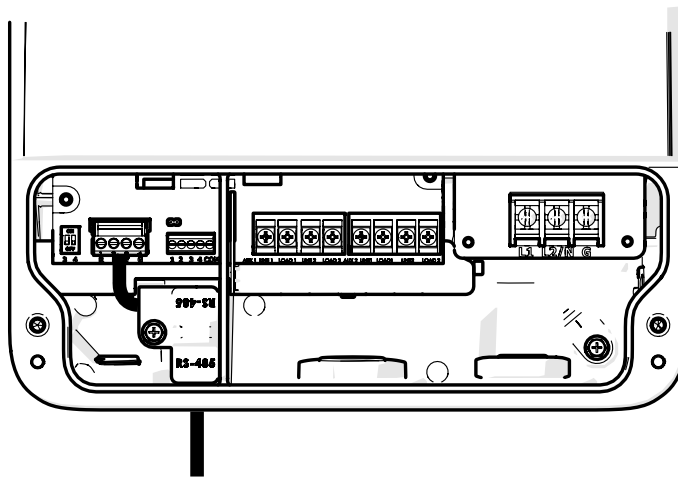

Figure 8. RS-485 Quick Connect Port with Wiring
In addition to being properly grounded as described in the *Electrical Wiring* section, and in accordance with the requirements of the National Electrical Code (NEC), or in Canada the Canadian Electrical Code (CEC), the pump motor must be bonded to all metal parts of the swimming pool, spa or hot tub structure and to all electrical components and equipment associated with the pool/spa water circulation system. The bonding must be accomplished by using a solid copper conductor, No. 8 AWG or larger. In Canada No. 6 AWG or larger must be used. Bond the motor using the external bonding lug provided on the motor frame. See Figure 8.
- RS-485 quick connect port (see Figure 8)